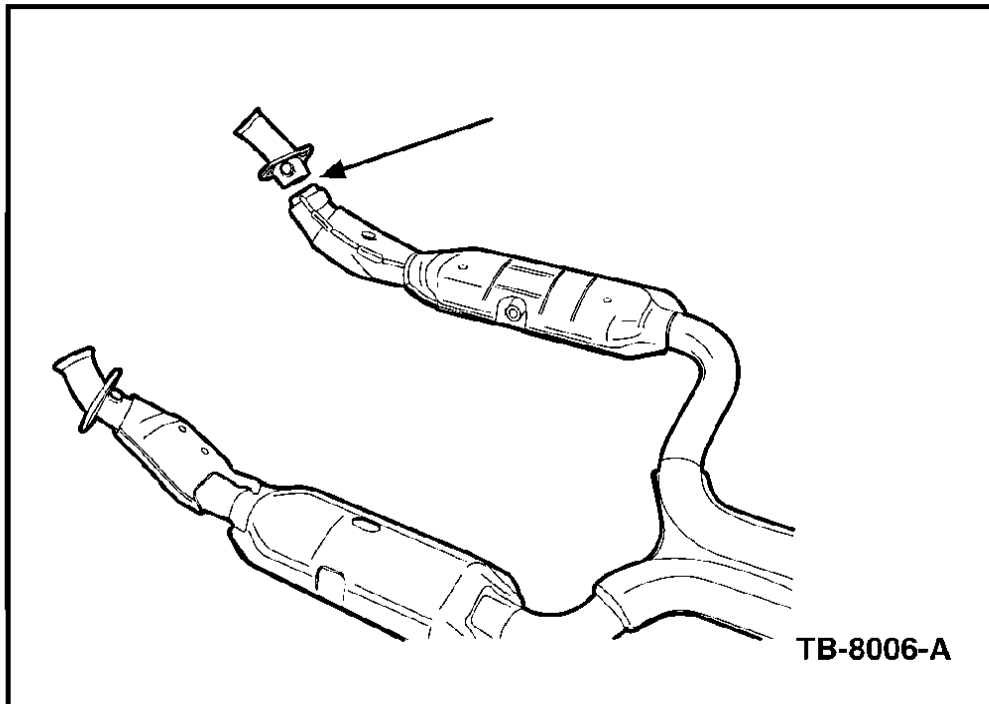

Figure 1
3. Inspect the right side inlet pipe for a crack or separation just forward of the first catalyist (Figure 1).